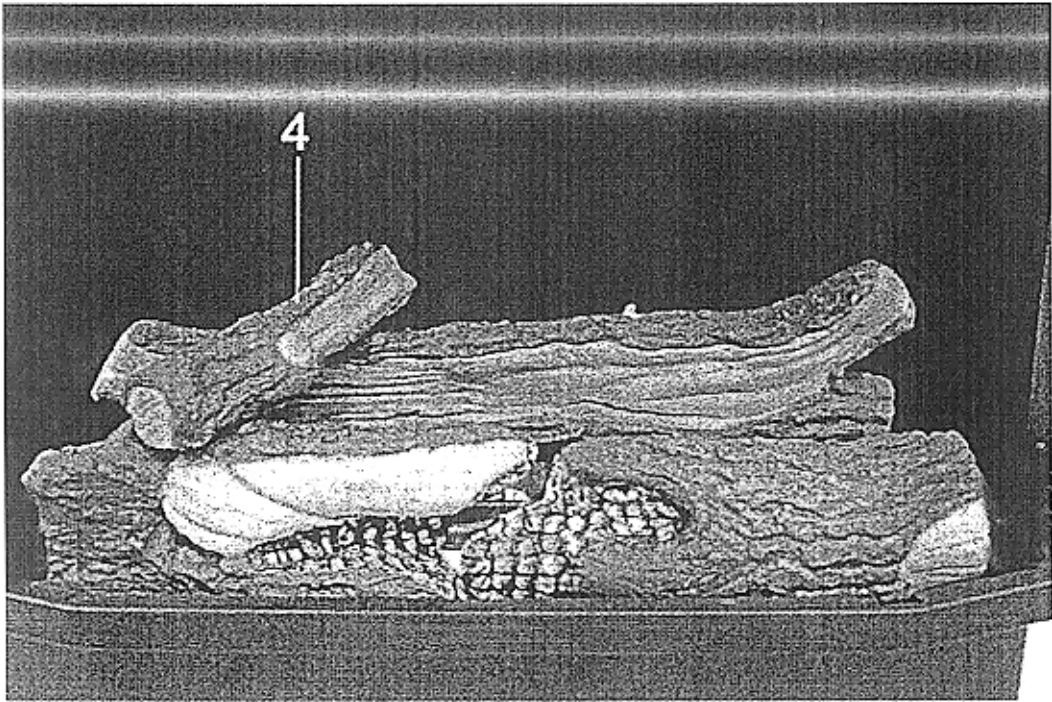

Figure 3
STEP 2: Put log 4 on top of log1 and log2, as shown in the drawing (See Figure 3).